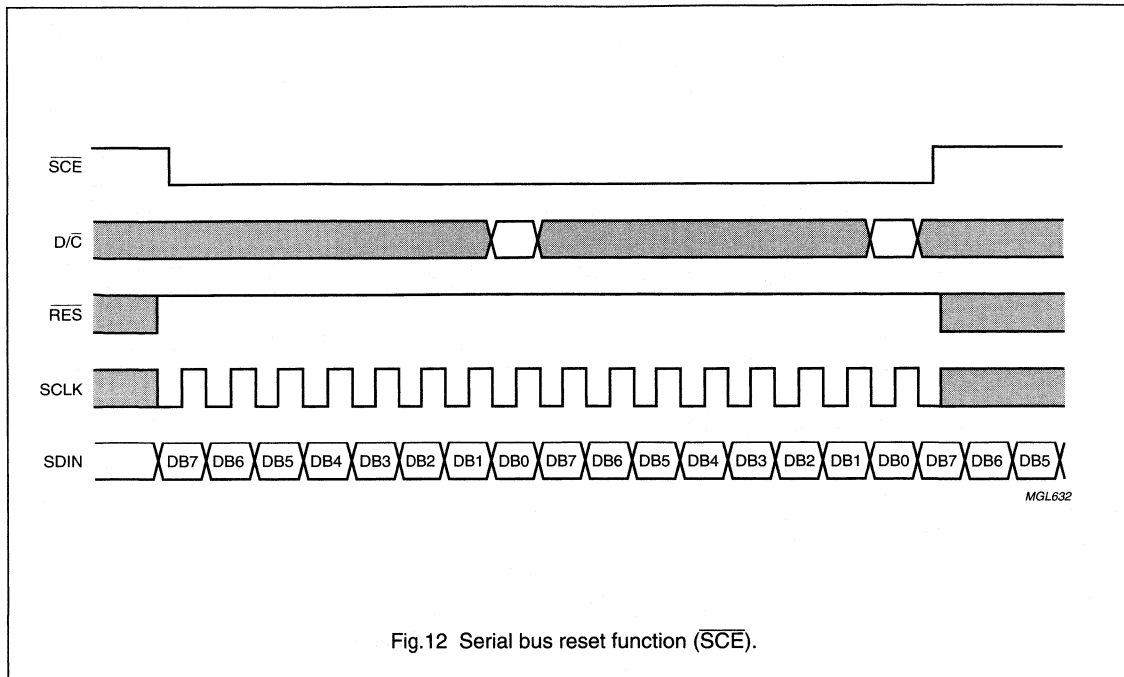

Fig.12 Serial bus reset function (\overline{SCE}).
- When \overline{SCE} is HIGH, $SCLK$ clock signals are ignored; during the HIGH time of \overline{SCE} , the serial interface is initialized (see Fig.12)
- If \overline{SCE} stays LOW after the last bit of a command/data byte, the serial interface expects bit 7 of the next byte at the next positive edge of $SCLK$ (see Fig.12)